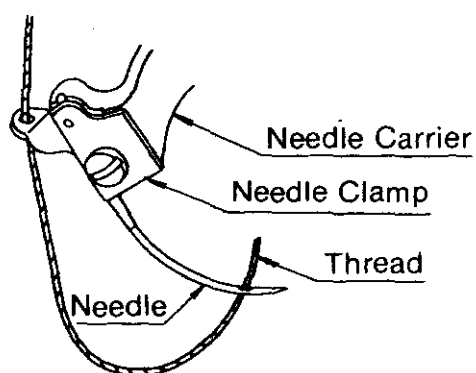

**Fig. 10**
B. When using spool thread, remove plastic cup before placing spool on thread stand (Fig. 10).